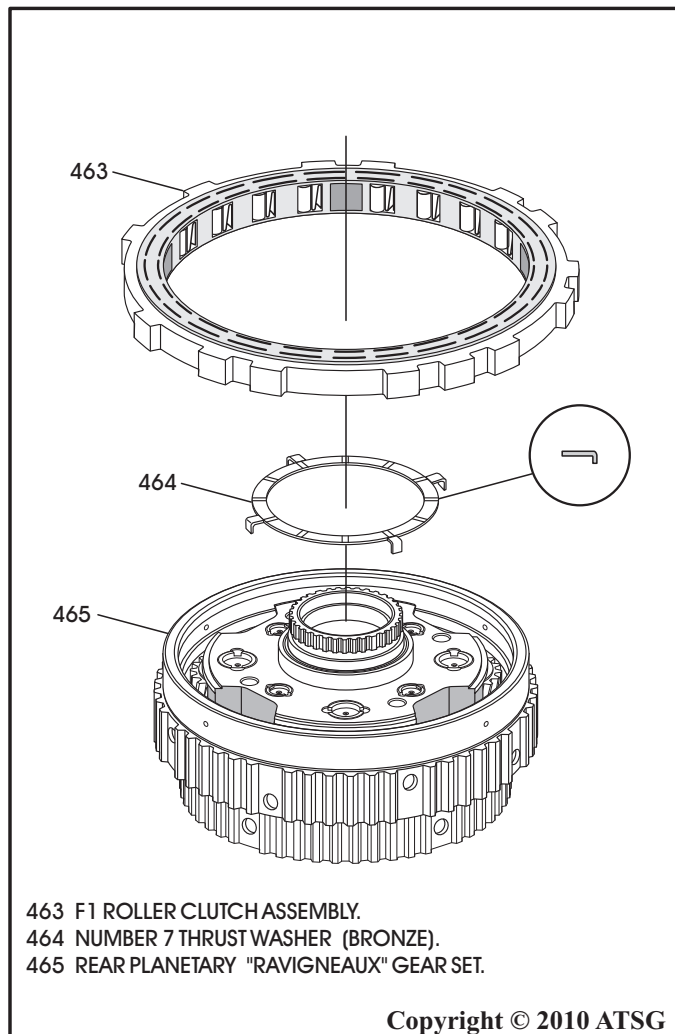

Figure 130
4. Place the rear planetary carrier on a flat work surface, as shown in Figure 130.
5. Install the number 7 thrust washer, as shown in Figure 130, and retain with Trans-Jel®.
6. Install the F1 roller clutch onto the planetary carrier, as shown in Figure 130, by rotating carefully in a counter-clockwise direction until fully seated.